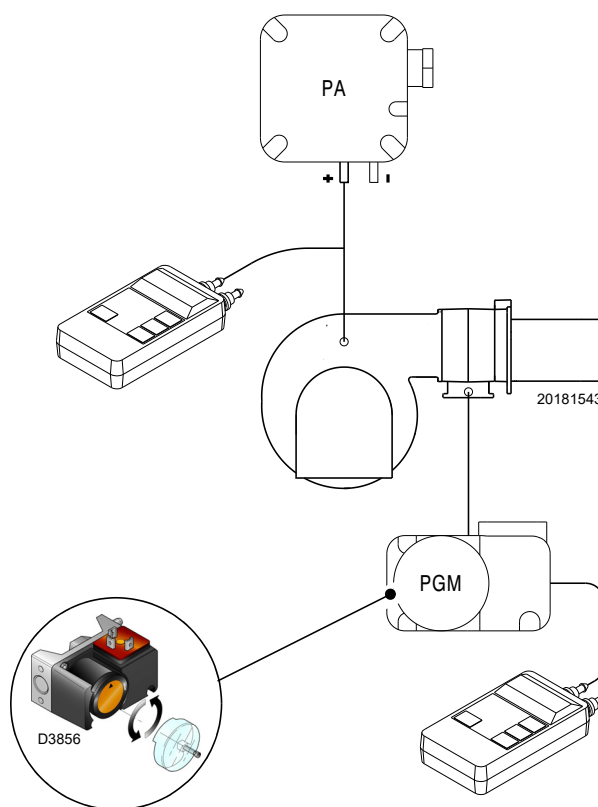

Fig. 32
- Adjust the maximum gas pressure switch (Fig. 32 at page 36) to the end of the scale.
Adjust the maximum gas pressure switch (Fig. 32) after making all other burner adjustments with the maximum gas pressure switch set to the end of the scale.